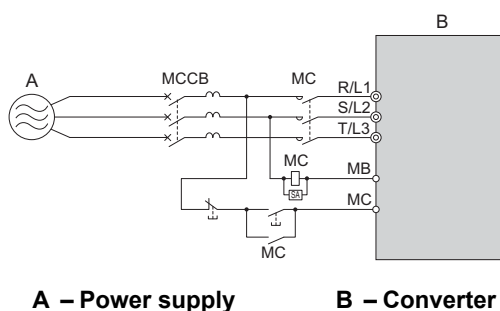

Figure 7.2 Power Supply Interrupt Wiring (Example)
- If several converters are connected to one MCCB or RCD that is shared with other equipment, use a sequence that shuts the power OFF when errors are output by using magnetic contactor (MC) as shown in Figure 7.2.